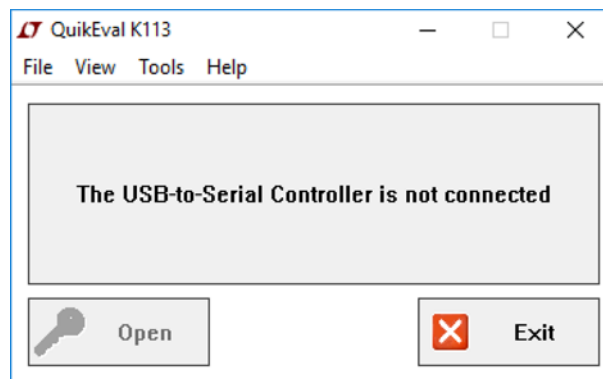
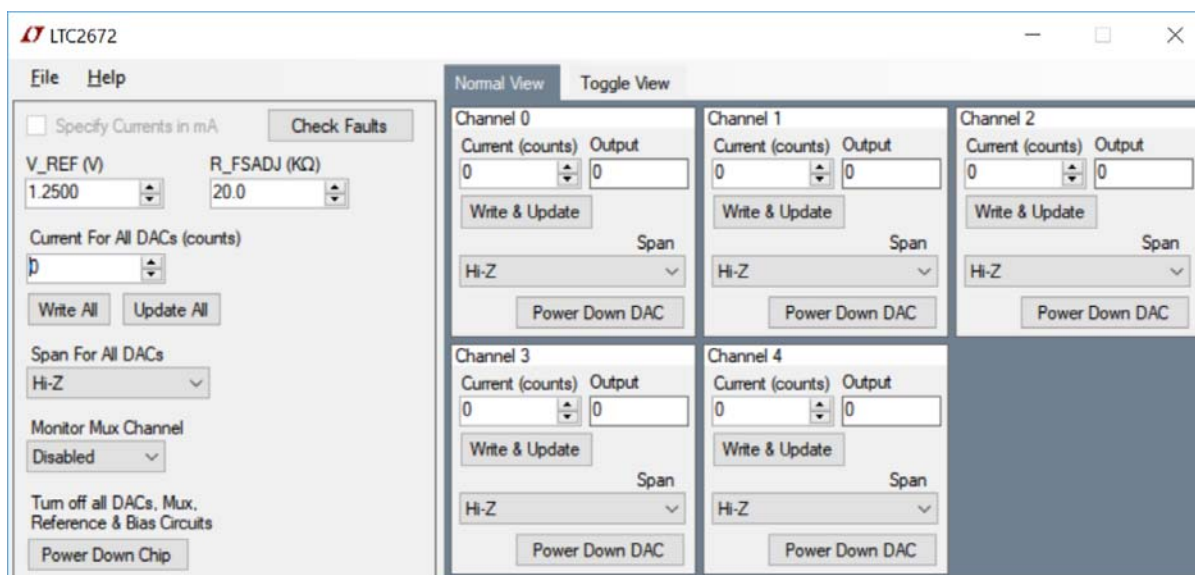

Figure 4. Select Interface Window
Figure 5. QuikEval Evaluation Software Main Window
To start the QuikEval evaluation software, from the **Start** menu, click **Analog Devices > QuikEval**. The software window opens (see Figure 4) until the software recognizes the DC2903A. When the software recognizes the DC2903A, the main software window in Figure 5 opens.
In the main QuikEval evaluation software window (see Figure 5), each channel can be written individually or all channels can be written at once as a group. Various settings for the LTC2672 are available in this window, including the range, reference voltage, toggle options, and full-scale adjustment resistor (R\_FSADJ) settings. The fault register is read and displayed after every data transfer.
The DC2903A uses the LTC2672 internal 20 k $\Omega$  resistor to set the full-scale range. If a different resistor is manually populated on R4 of the DC2903A, the resistor value can be changed in the **R\_FSADJ (K $\Omega$ )** text box (see Figure 5).
Similarly, if a different external reference voltage is used, the resistor value can be changed in the **V\_REF (V)** text box (see Figure 5).
To set the output range for all LTC2672 channels at once, use the **Span For All DACs** dropdown list. To set the output range for individual LTC2672 channels, use the **Span** dropdown list for each individual channel (see Figure 5).
To set the output current for all LTC2672 channels at once, use the **Current For All DACs (counts)** text box. To set the output current for individual LTC2672 channels, use the **Current (counts)** text box for each individual channel (see Figure 5).